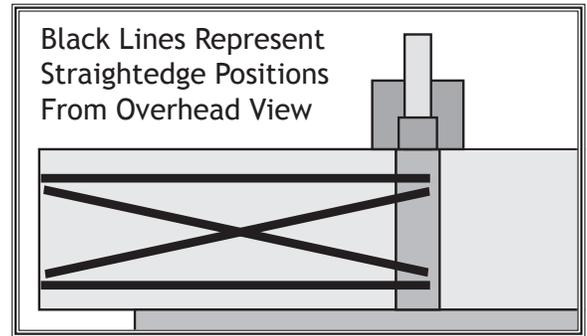

Figure 44. Straightedge positions for verifying if the outfeed table is parallel with cutterhead.
3. Place straightedge in one of the positions shown in **Figure 44**, and adjust eccentric bushings so straightedge touches cutterhead body while lying flat across outfeed table (a small hammer and punch may be necessary to turn eccentric bushings).